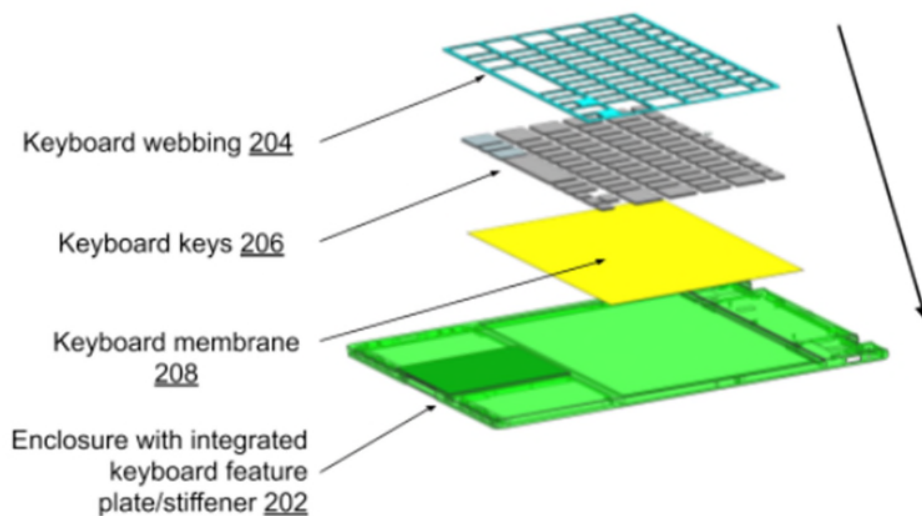

Fig. 2: Side-view of laptop keyboard module elements with integrated feature plate
Fig. 2 illustrates an example integrated keyboard plate, per techniques of this disclosure. As can be observed in Fig. 2, a keyboard feature plate is integrated into the laptop enclosure (202). Other elements of the keyboard assembly such as keyboard keys (206), and a keyboard membrane (208) are top loaded into the laptop enclosure. The keyboard webbing (204) is laminated to the enclosure to complete the assembly.